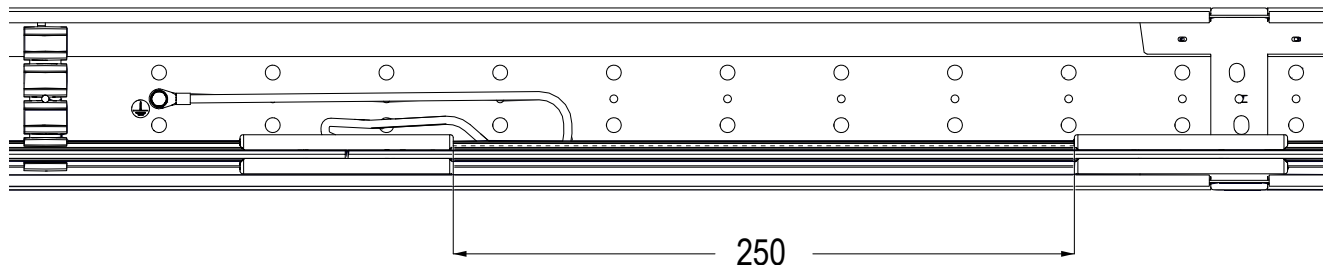

Fig. 60: Distance from connector with protective conductor connection to normal connector
4. Lay the other PE cable end in a loop on the ProShell support profile (see Fig. 60) and attach the ring terminal to the PE cable using the screw elements (1, 2, 4 and 5) on the ProShell support profile (see Fig. 59). For this purpose, an existing bore in the ProShell support profile rail can be used. Laying the PE cable in a loop is therefore important, since the conductor rail, including its connector, is subject to thermal expansion and can therefore lengthen or shorten (see Fig. 60).